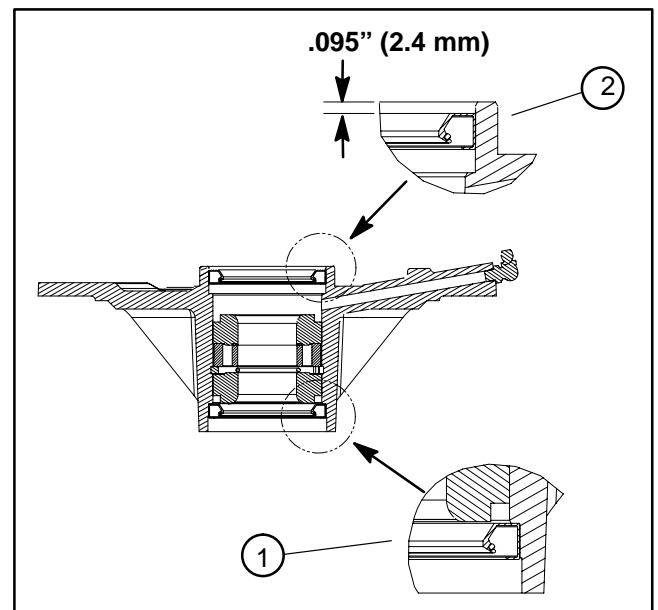

Figure 18
5. Install lower bearing cone and oil seal into bottom of spindle housing. **Note:** The lower seal must have the lip facing out (down) (Fig. 18).
6. Slide spacer ring and inner bearing spacer into spindle housing, then install upper bearing cone and oil seal into top of housing. **Note:** The upper seal must have the lip facing in (down) and be recessed into the spindle housing .095" (2.4 mm) (Fig. 18).
**NOTE:** Early production spindle assemblies included a v-ring seal (item 4) which has been found to be unnecessary. **Do not** install a v-ring seal when assembling the spindle.